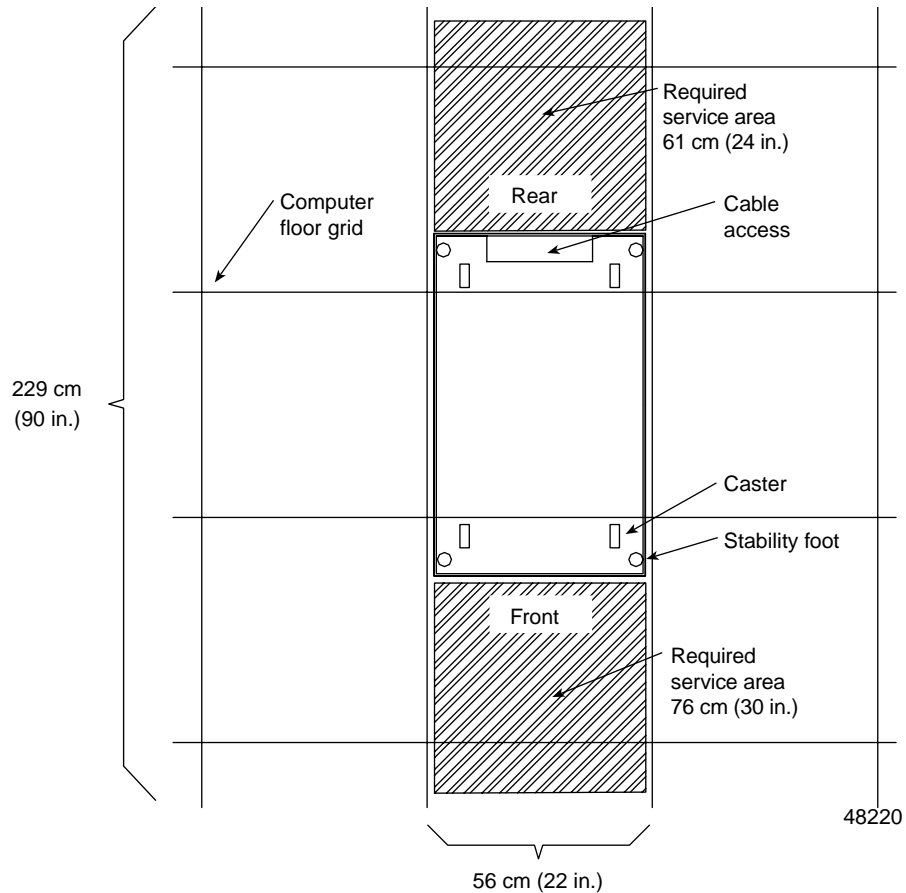

Figure A-4 System Area Requirements
- Sufficient space to install and service the rack and components (see Figure A-4).